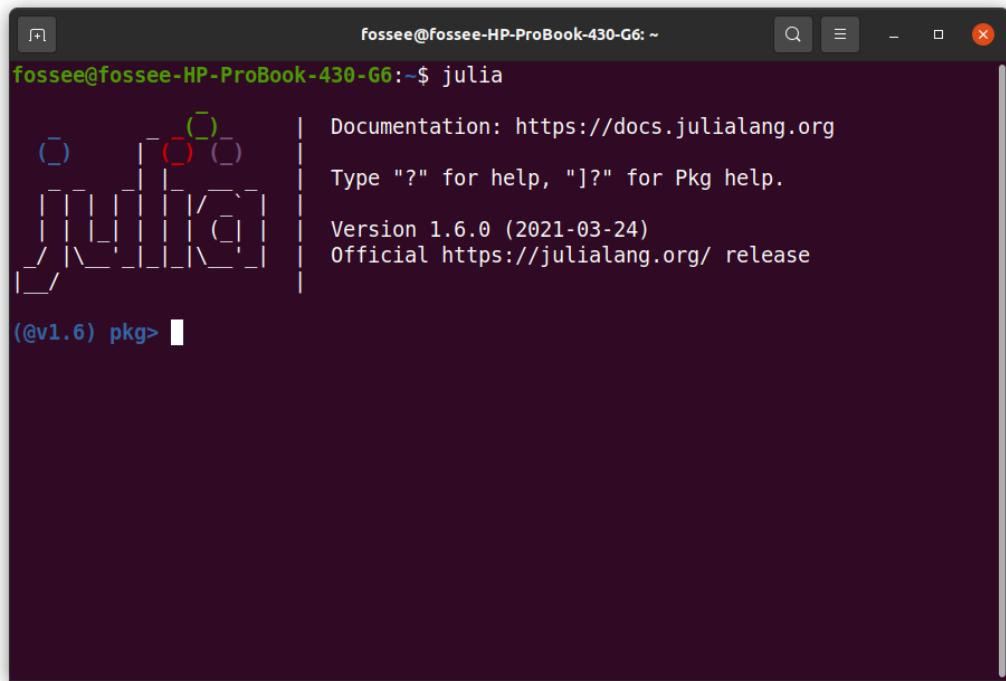

Figure 3.27: Linux terminal to enter Pkg REPL in Julia
2. Now, we need to enter the **Pkg** REPL in Julia. From the Julia REPL, press **]** to enter the **Pkg** REPL. The moment you press **]**, you enter **Pkg** REPL, as shown in Fig. 3.27.